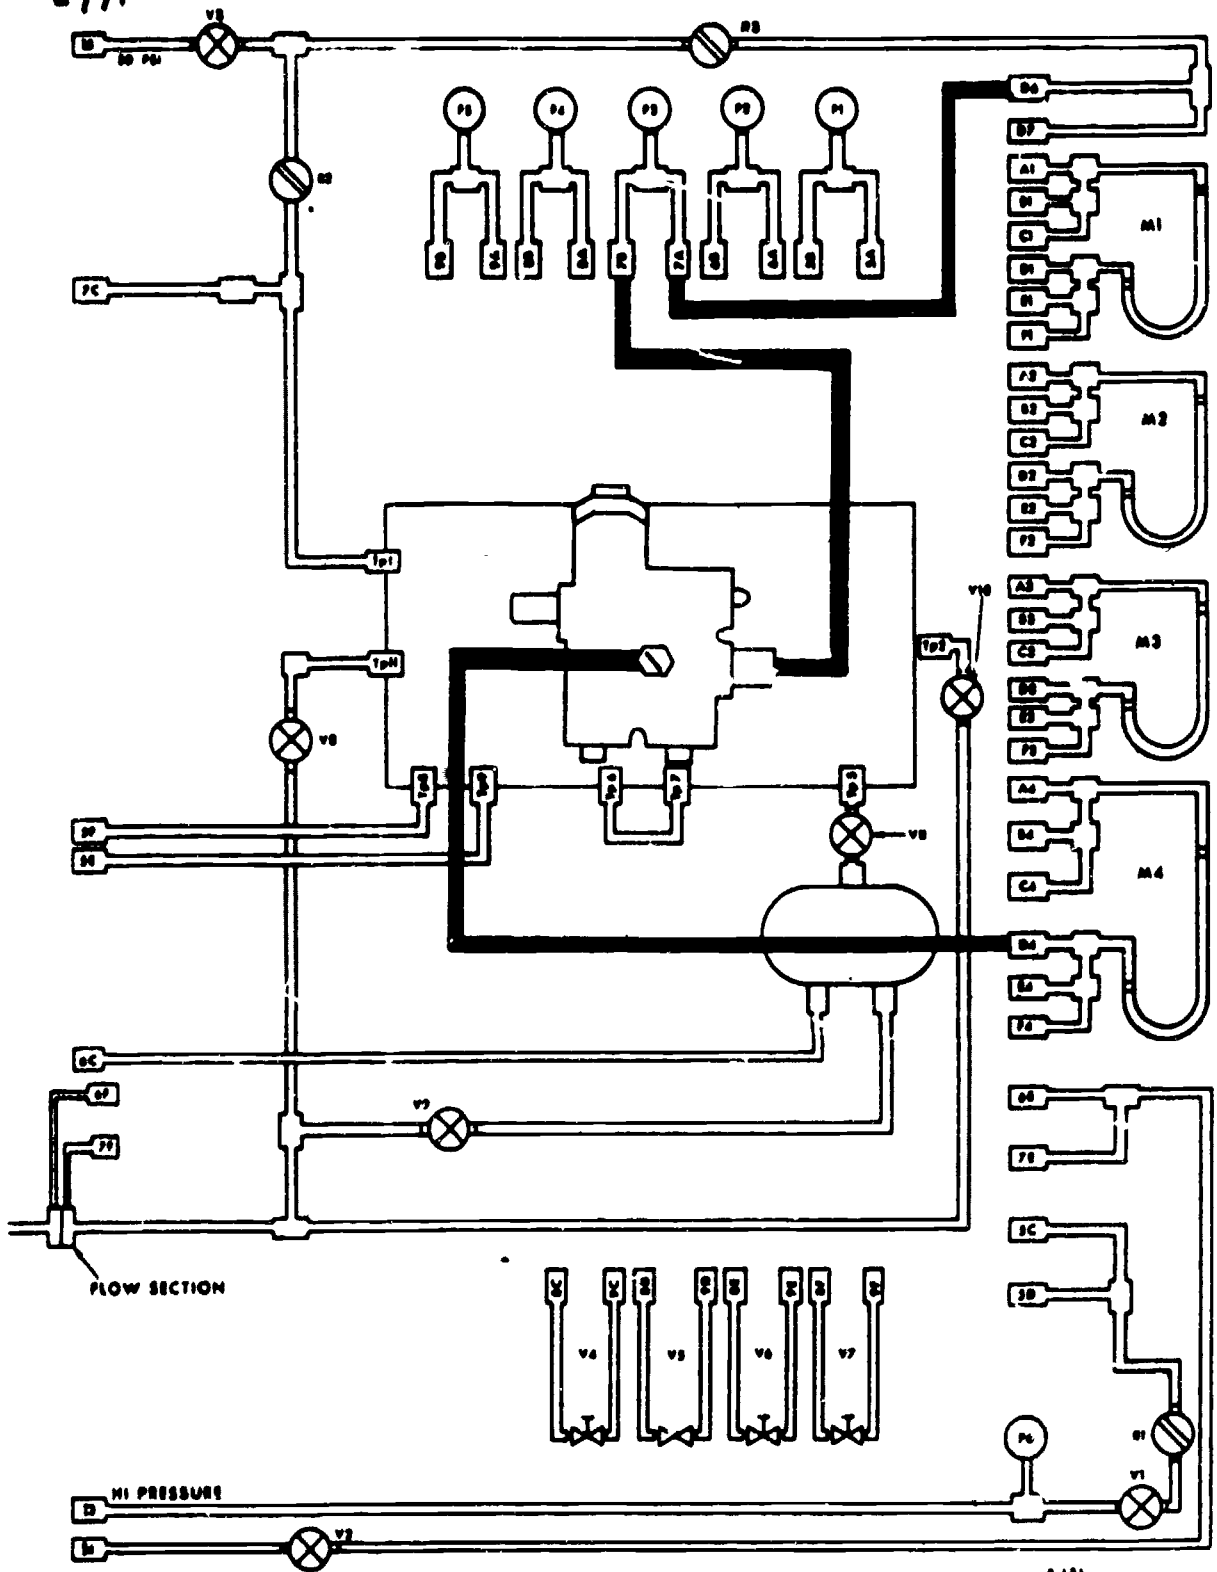

Figure 4. First Stage Inlet Valve Assembly Test Hook-up Electrical-Pneumatic Trainer (Schematic).
3. Refer to figure 4 of this workbook as you connect the anti-G suit valve to the trainer.